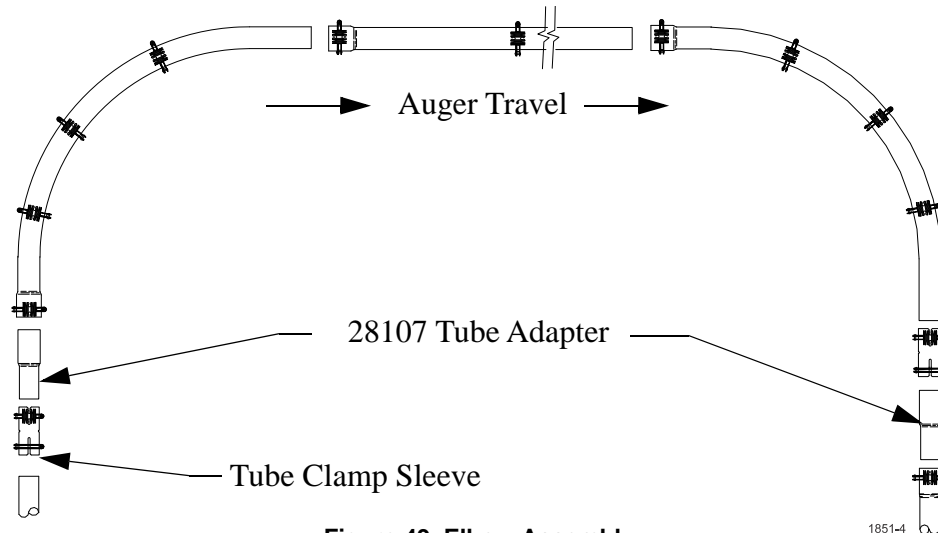

Figure 49. Elbow Assembly
10. Assemble the elbows and related components as shown in **Figure 49**. Temporarily support the elbows until the suspension system is installed.